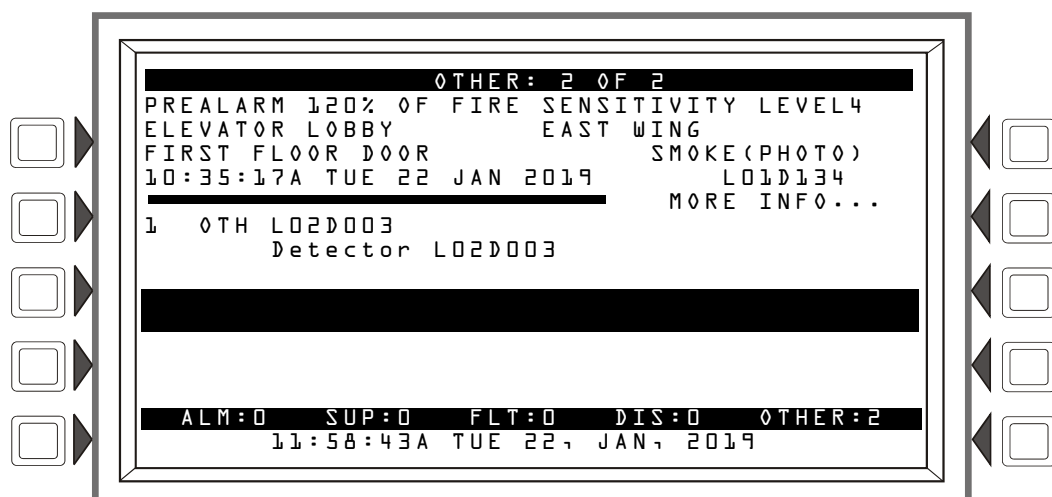

Figure 2.5 Sample Prealarm Message
- Displays PREALARM in the upper left corner of the LCD, as well as the sensitivity reading, the type code and other information specific to the detector as shown in Figure 2.5.